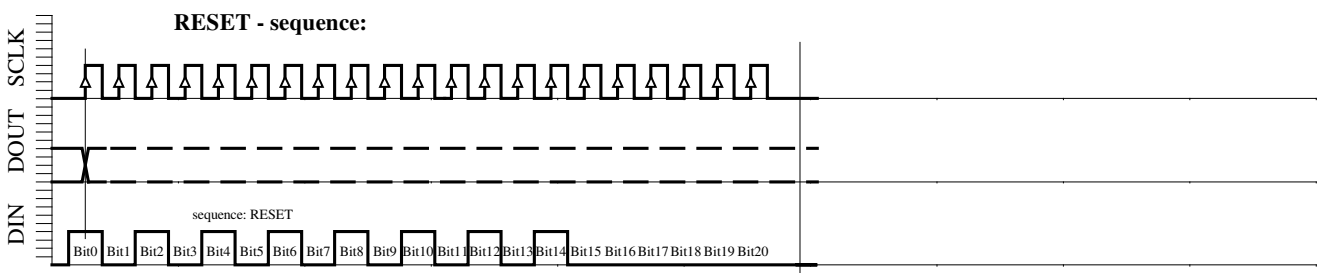

Fig. 6e: RESET sequence (21-Bit).
- RESET sequence (Figure 6e)
The RESET sequence is special as its unique pattern is recognised by the module in any state. By consequence it can be used to restart if synchronisation between the microcontroller and the MS5540B has been lost. This sequence is 21-Bit long. The DOUT signal might change during that sequence (see Fig. 6e). **It is recommended to send the RESET sequence before each CONVERSION sequence to avoid hanging up the protocol permanently in case of electrical interference.**